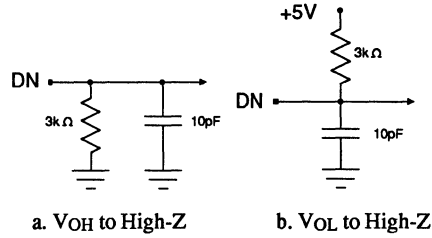

Figure 2. Load Circuits for Data Hold Time Test
5. Measured with the load shown in Fig. 2, and defined as the time required for the data lines (D0 - D7) to change 0.5V.